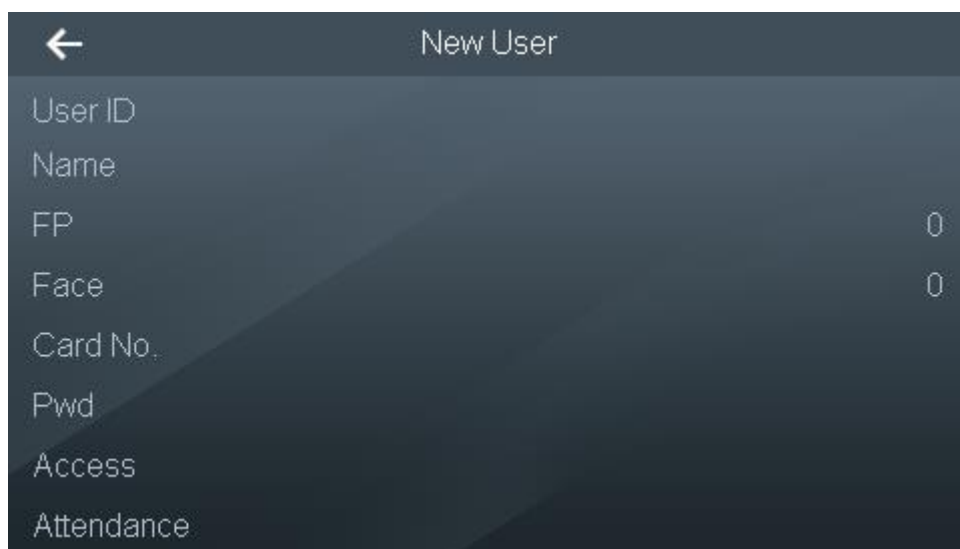

Figure 3-4
Step 1 Select "User > New User", and the screen displays Figure 3-4.